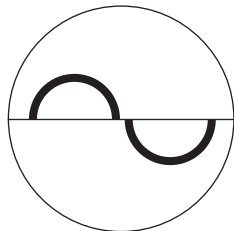

Figure 1: Semicircular images at the Centre of the field of vision.
- Use the Slit Lamp joystick control to make any corrections needed until the applanated surface is observed as two semicircular surfaces of equal area at the Centre of the field of vision. (Figure 1). Small adjustments downward made with the joystick will have no effect on the sizes of the semicircular images.